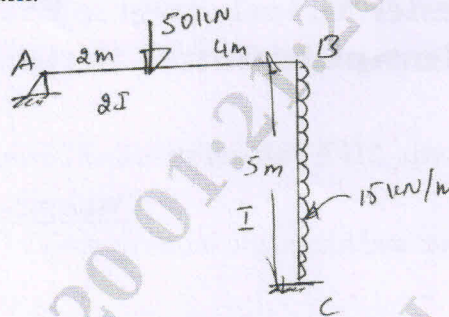

Fig. Q5
- 5 Analyse the frame shown in Fig. Q5 by flexibility method. Adopt element approach. Also draw bending moment diagram.